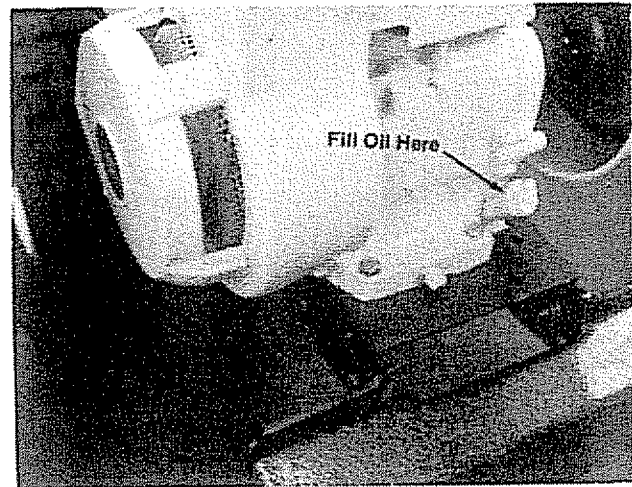

FIGURE 15.
1. Before starting. Fill crankcase with 2¾ pints of SAE 30 heavy duty detergent oil. Be sure that engine is level. See figure 15.